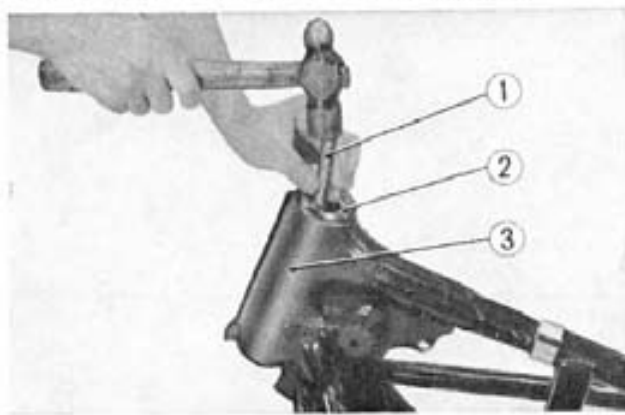

Fig. 15-4 ① Wooden drift ② Ball race ③ Head pipe
10. Remove the upper and lower ball races from the steering head. Use wood blocks to prevent damage when driving out. (Fig. 15-4)